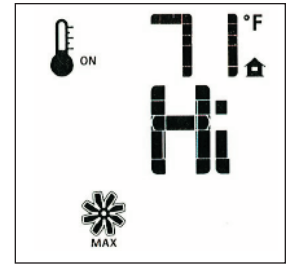

Figure 53. Fan Speed
- Use the Up/Down Arrow Keys to turn ON, OFF, or adjust the fan speed. Fig. 53. A single “beep” will confirm reception of the command.